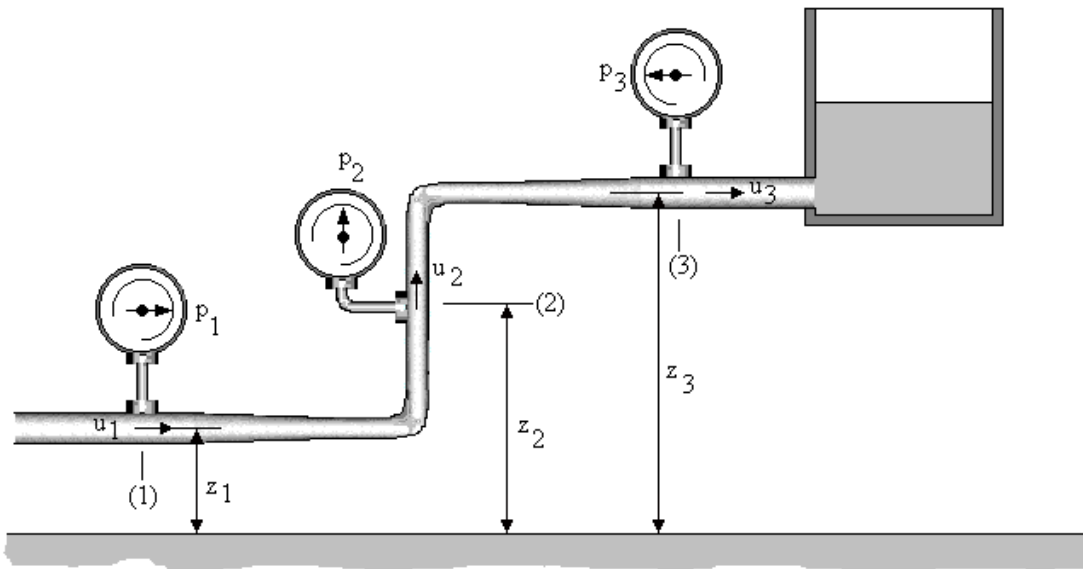

Fig. 1
When a fluid flows at a constant rate in a pipe or duct, the mass flow rate must be the same at all points along the length. Consider a liquid being pumped into a tank as shown (fig. 1).
The total energy E_T at (1) and (2) on the diagram (fig.1) must be equal so :